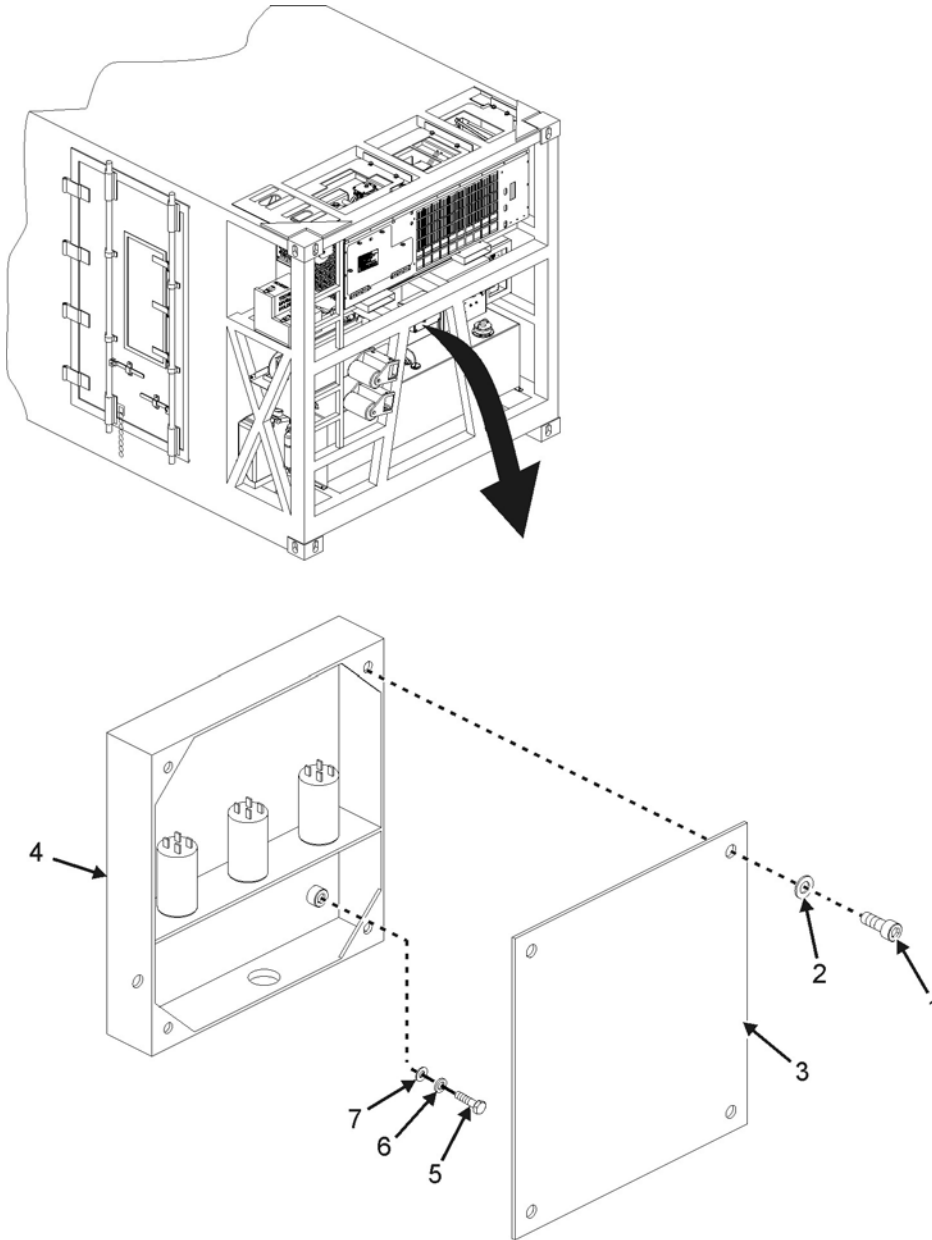

Figure 4. Capacitor Box Removal.
- (a) Remove four bolts (Figure 4, Item 1), washers (Figure 4, Item 2), and cover (Figure 4, Item 3) from capacitor box (Figure 4, Item 4).
- (c) Remove four bolts (Figure 4, Item 5), lock washers (Figure 4, Item 6), washers (Figure 4, Item 7), and capacitor box (Figure 4, Item 4) from MTRCS. Discard capacitor box and hardware.
- (d) Install four 15795-814 washers (Figure 4, Item 7), four 92148A210 lock washers (Figure 4, Item 6) and four 91287A167 screws (Figure 4, Item 5) into mounting holes in MTRCS.